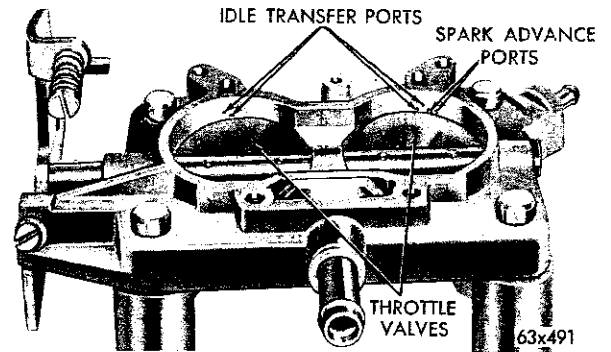

Fig. 9—Ports in Relation to Throttle Valves
(1) During manufacture, the location of the idle transfer ports and the spark advance control ports to the valves are carefully established for one particular assembly (Fig. 9).
(2) If a new shaft should be installed in an old worn throttle body, it would be very unlikely that the original relationship of these ports to the valves would be obtained. Changing the port relationship would adversely affect normal car operation between the speeds of 15 and 30 miles per hour. If it has been determined, however, that a new shaft or valves are to be installed, adhere closely to the following instructions: